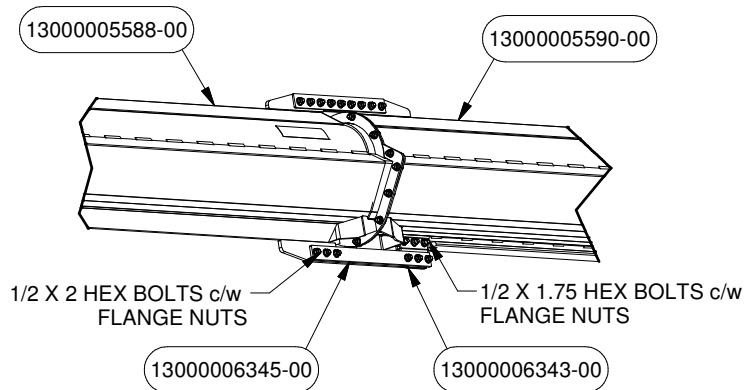

FIGURE 3
3. For 20-120 Conveyors, on the connection between the two 39ft Tubes PN# 5588 and 5590, attach 2 braces PN# 6343 onto PN# 5590 with Bolt and Nuts found in Bolt Bag PN# 6997. Fasten 2 Tube Outside Brace PN# 6345 to Tube PN# 5588 and PN# 6343 with Bolts and Nuts found in Bolt Bag PN# 6997. See details found in Figure 3.